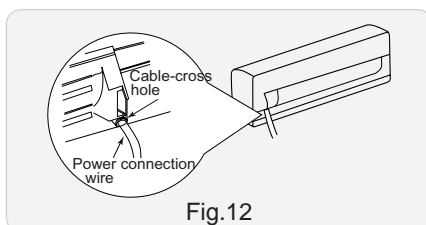

Fig.12
(2) Make the power connection wire go through the cable-cross hole at the back of indoor unit and then pull it out from the front side.(As show in Fig.12)